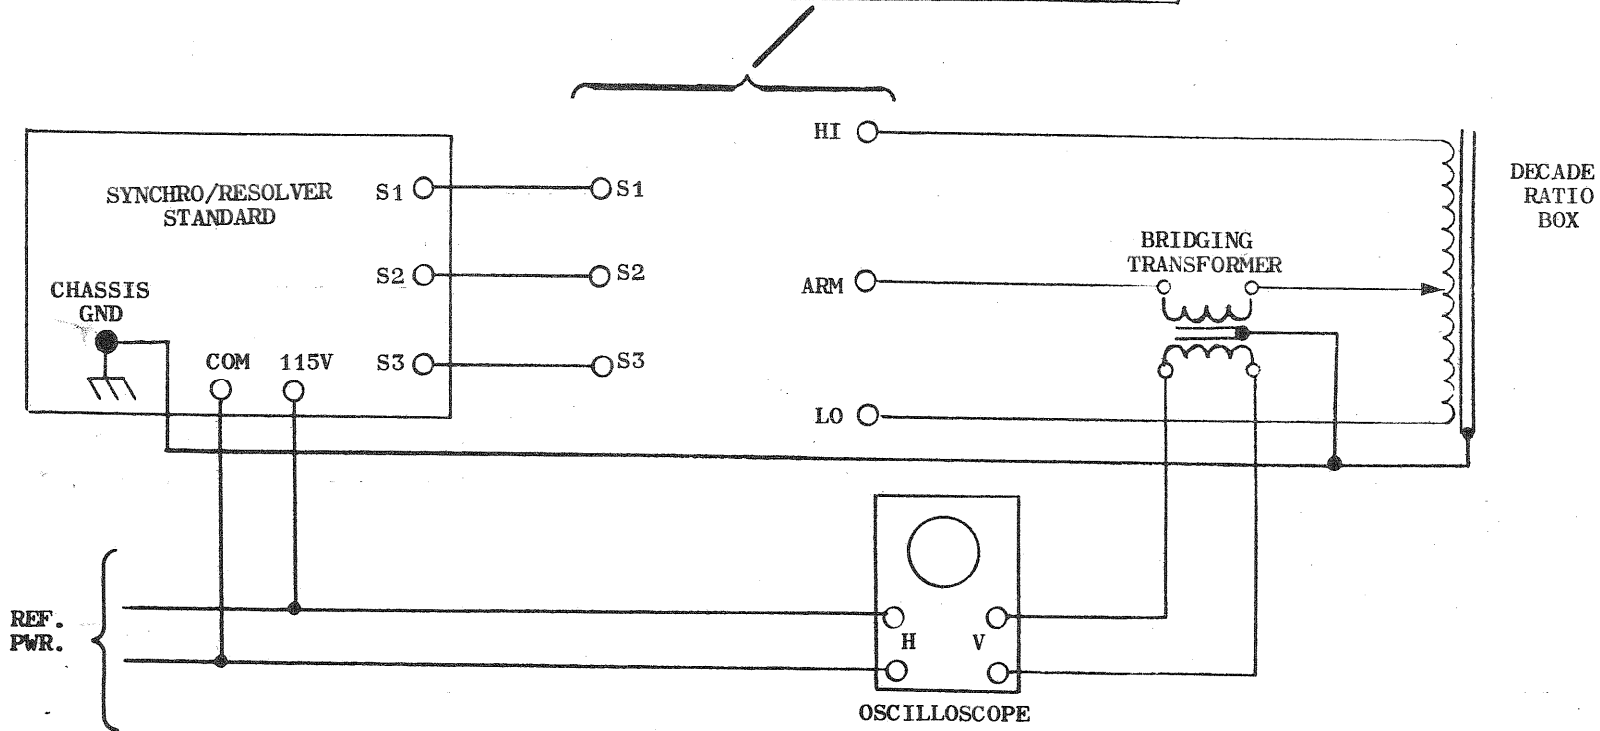

Figure 5-2. Synchro Mode Test Setup
2. Connect standard and test equipment as shown in figure 5-2.